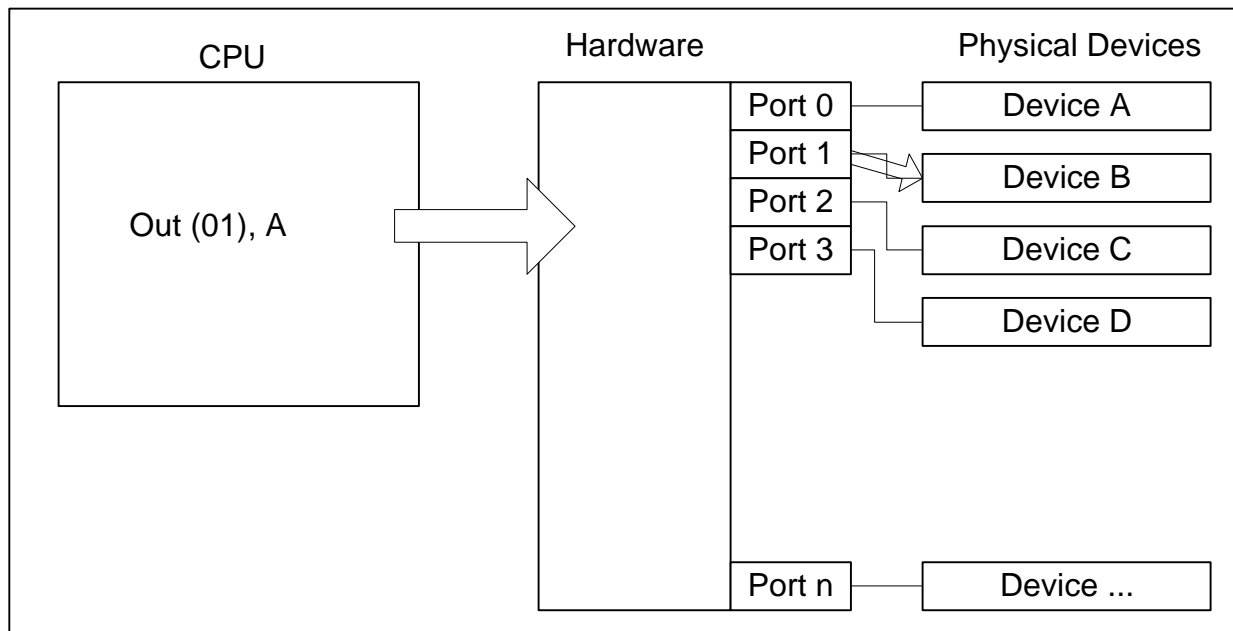

Figure 4, Port Emulation
Figure 4, port emulation, illustrates the logical port operation of a Z-80 OUT command. In Figure 4, a Z-80 OUT command is sending data contained within the accumulator (A) register to a physical device labeled B. Note that device B is physically connected to port 1. The device would receive the value contained within the accumulator. The Z-80 IN command can retrieve data from a physical device in a similar manner.